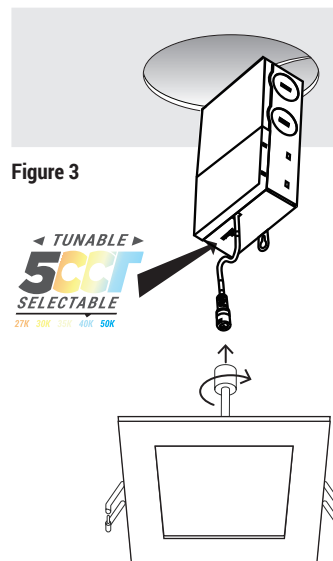

Figure 3
1. Connect the fixture to the hardwire box by inserting and twisting the male/female connectors. Select the desired Color Temperature. (Figure 3)